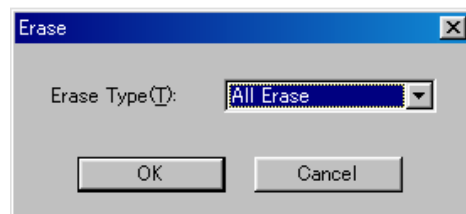

Fig. 5.1: Erase Command Parameter Input Dialog
* Radio button for domain choice like figure 5.1 is made for all devices command.
The erase type parameter contained in the erase command enables you to erase by block or erase all blocks. The erase command parameter input dialog is shown in Figure 5.1.